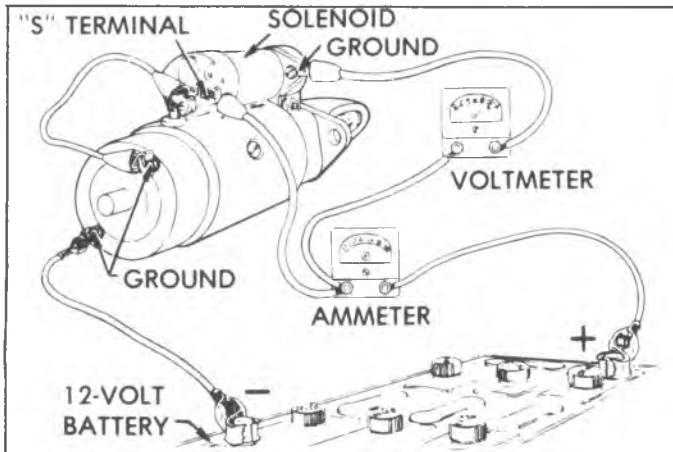

Fig. 16s—Amperage Test of Solenoid
(1) Current draw of both windings in parallel.
(2) Current draw of hold-in winding alone.
- Remove screw from solenoid motor terminal and bend field leads slightly until clear of terminal. Then ground solenoid motor terminal with a heavy jumper wire (Fig. 16s).